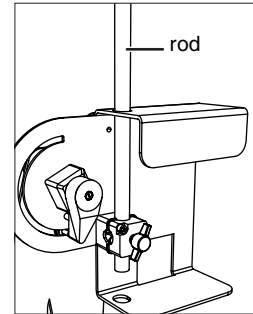

Figure 9: Rod clamped in base
3. Clamp the included 45 cm rod to the base of the arm model (Figure 9).